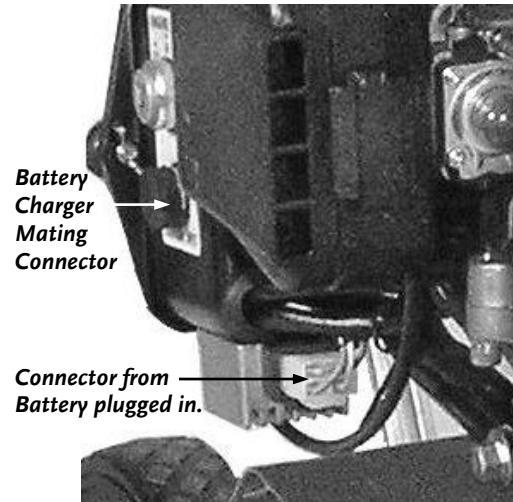

Figure 4
7. Plug the white plastic connector from the Battery into the mating plastic receptacle under the Battery Box (**Figure 4**).
2. Plug the three-prong connector from the Charger into its mating connector on the side of the Battery Box (**Figure 4**).